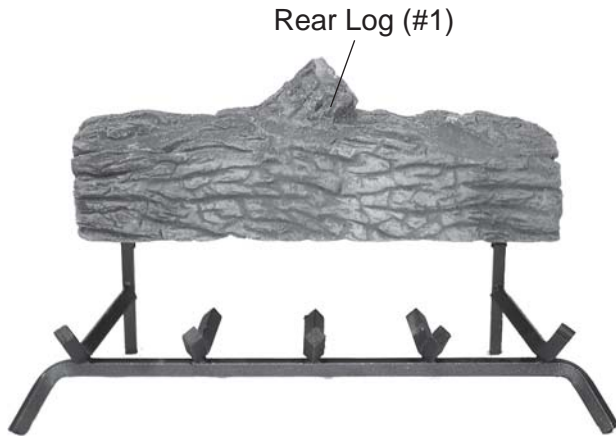

Figure 19 - Centering Rear Log (#1) on Grate Bars
2. Center rear log #1 on grate bars and flush with rear of the grate. See *Figure 19*.